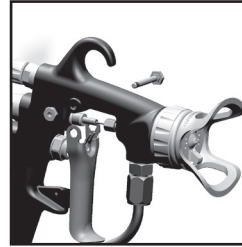

Fig. 25
1. Remove trigger and fluid tube assembly. (See figs 25 & 26)